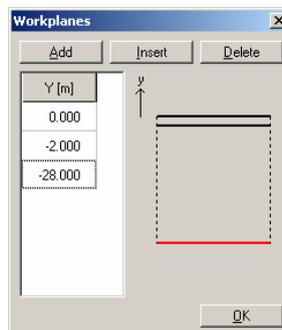

Figure 3.6 Work planes window
- Click the <Insert> button, and change the  $y$ -coordinate of the new work plane to  $y = -2.0$  m. After accepting this value, the overview of work planes is updated, as shown in Figure 3.6.